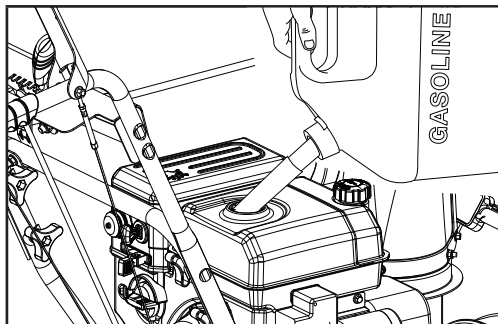

Figure 17
1. Remove the fuel tank cap (Fig. 17).